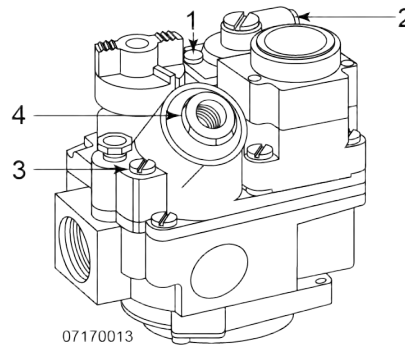

Figure 2-11 Gas Control Valve
The gas control valve regulates the flow of gas to the pilot and the main burner. The valve consists of: gas regulator (2), magnetic plug (4), pilot gas tube, gas valve knob, pilot adjustment cap (3) and screw, gas outlet and inlet ports, thermocouple connector, and electrical connection. The gas control valve also has a dial reference point (1)- OFF/PILOT/ON. See Figure 2-11 Gas Control Valve, page 33.